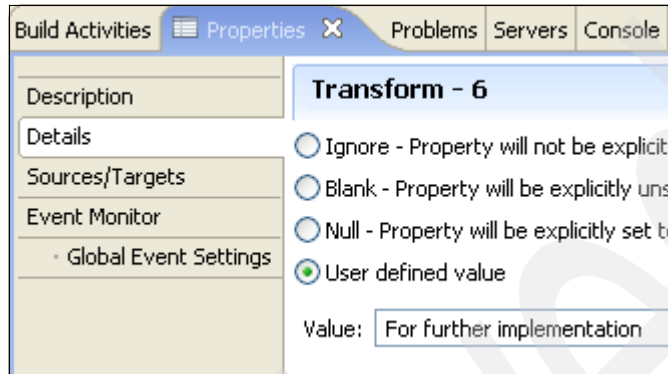

Figure 4-48 Assigning a fixed string to the special note
- c. In the Details section of the Properties view, select **User defined value** and enter For further implementation (as shown in Figure 4-48).